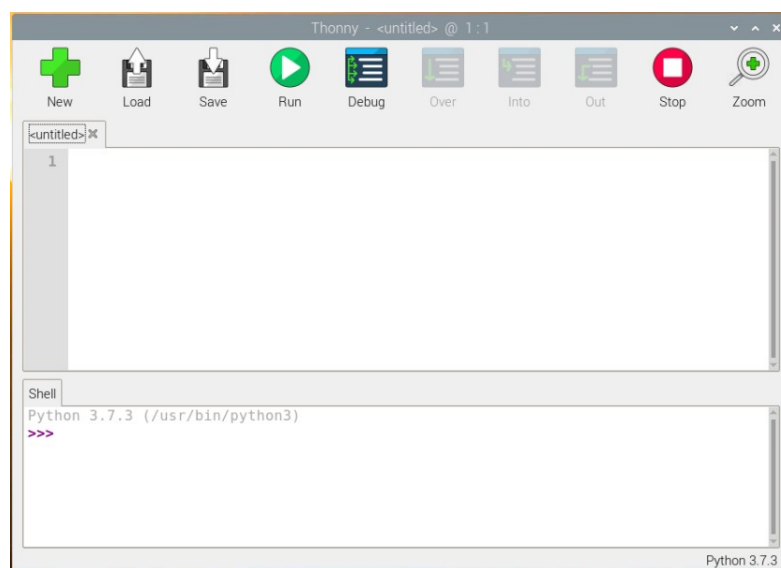

Figure 9.2: Creating a New Thonny Python IDE Script
- Click the + icon or go to **File** → **New** to open a blank editor tab (Figure 9.2).